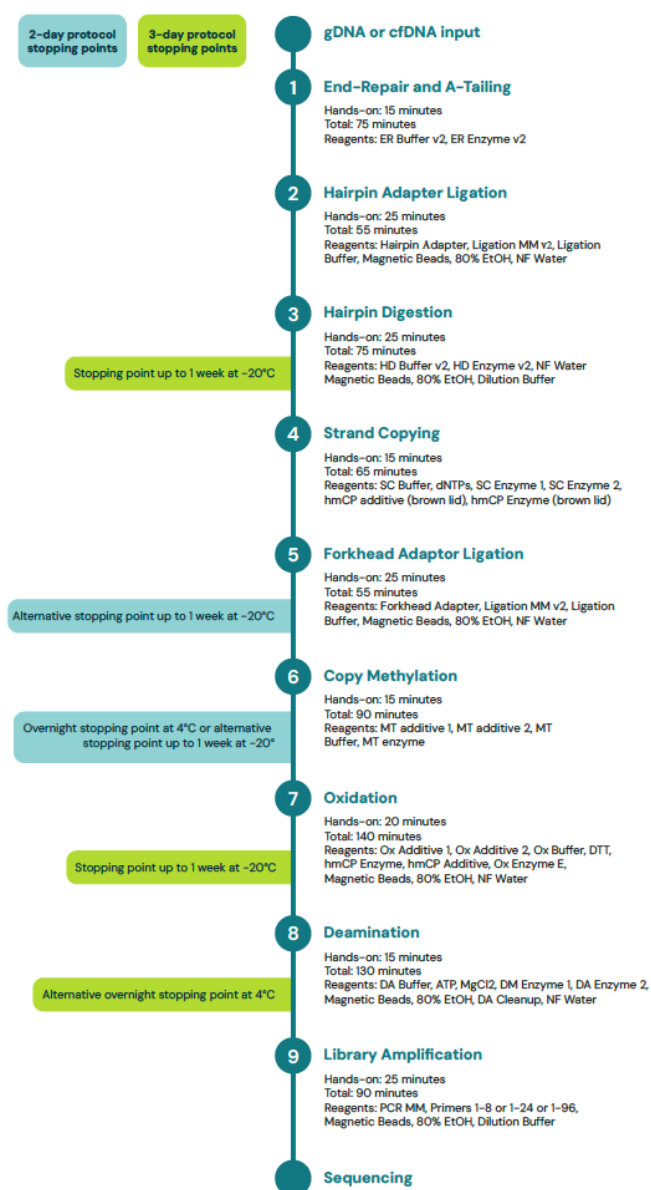

Figure 1. duet evoC
The duet evoC solution comprises 9 key steps, shown in Figure 1. End repair and A-tailing, hairpin adapter ligation, hairpin digestion (HD), strand copying (SC) and Forkhead adapter ligation resulting in a duet construct. This duet construct then undergoes DNA modification with copy methylation, oxidation, and deamination steps, followed by a PCR amplification step to add unique dual indexes (UDIs) and NGS sequencing adapters, producing a final duet construct ready for NGS on Illumina Platforms.